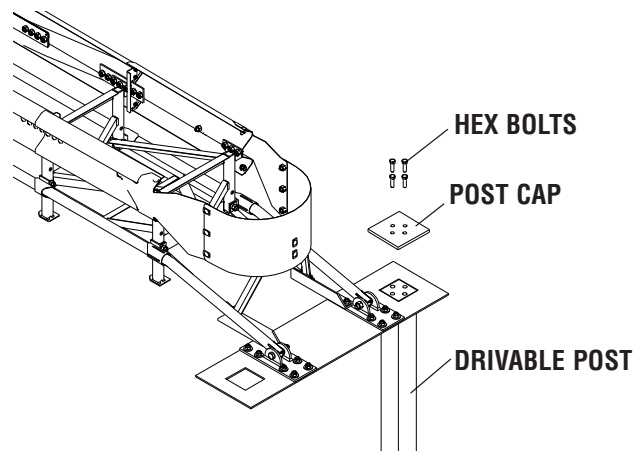

Figure 18
4. Use the 3/4"x2 1/2" hex bolts to fasten the 3/4"x10"x10" Post Cap to the top of the post as shown in Figure 18.